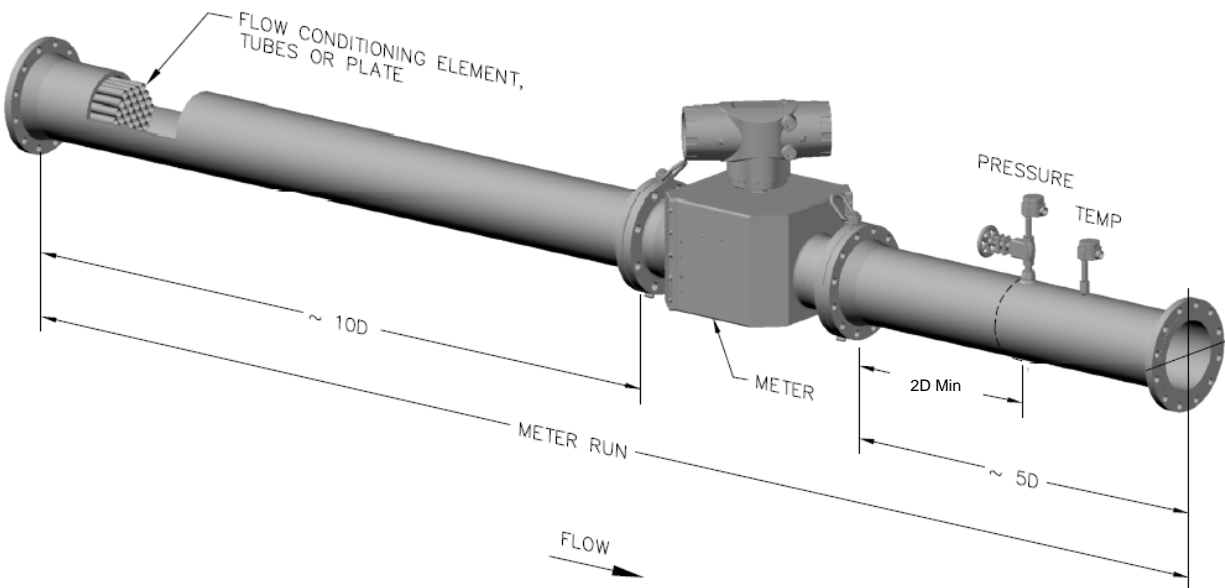

Figure 2-2 240Ci and 240CiRN Best Practice for Installation Hydraulics
- The adjoining straight pipe should be of the same schedule as the meter. Temperature elements and pressure connections should be located downstream of the meter. It is recommended that the meter be installed downstream of a 10-diameter pipe section. If using a flow conditioner, it should be installed at the inlet of the 10-diameter pipe section upstream of the meter. For effective flow conditioning, it is generally recommended that there be an additional straight pipe of approximately 5 diameters in length located upstream of the flow conditioner. Downstream of the meter there should be an uninterrupted pipe at least 2 pipe diameters in length. Refer to Figure 2-2 for details.